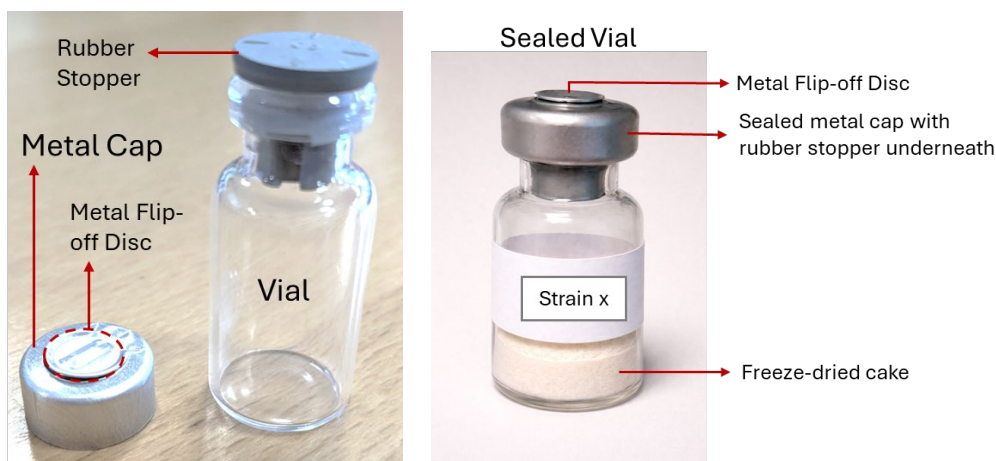

Figure 1. Components and final configuration of a serum vial used for freeze-dried bacterial cultures.
5. Identify the vial parts (metal flip-off disc, metal cap, rubber stopper) shown in **Figure 1**.